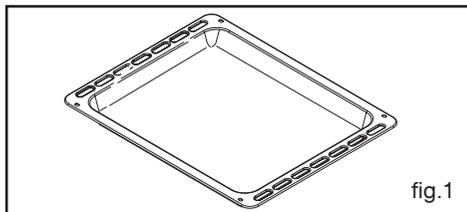

fig.1
• *Plat lèchefrite multi-usages fig.1*